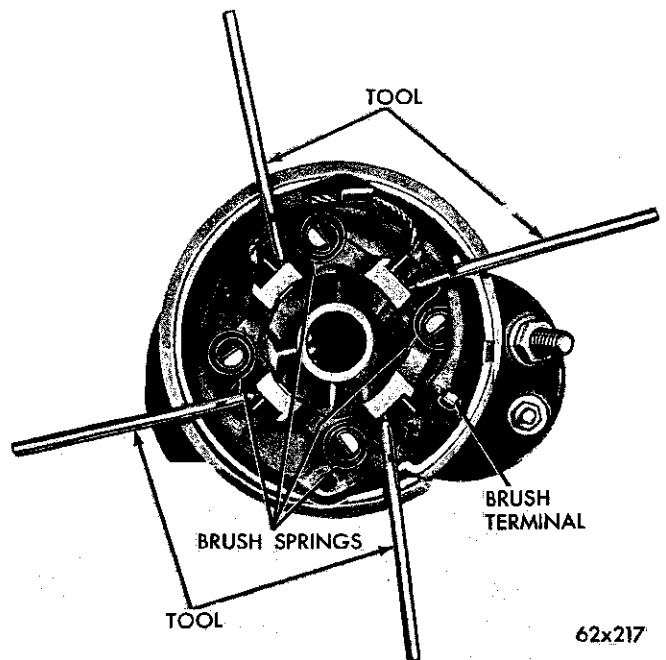

Fig. 24—Positioning the Brushes with Tool Set C-3855
(20) Position the brushes with Tool C-3855, as shown in Figure 24.